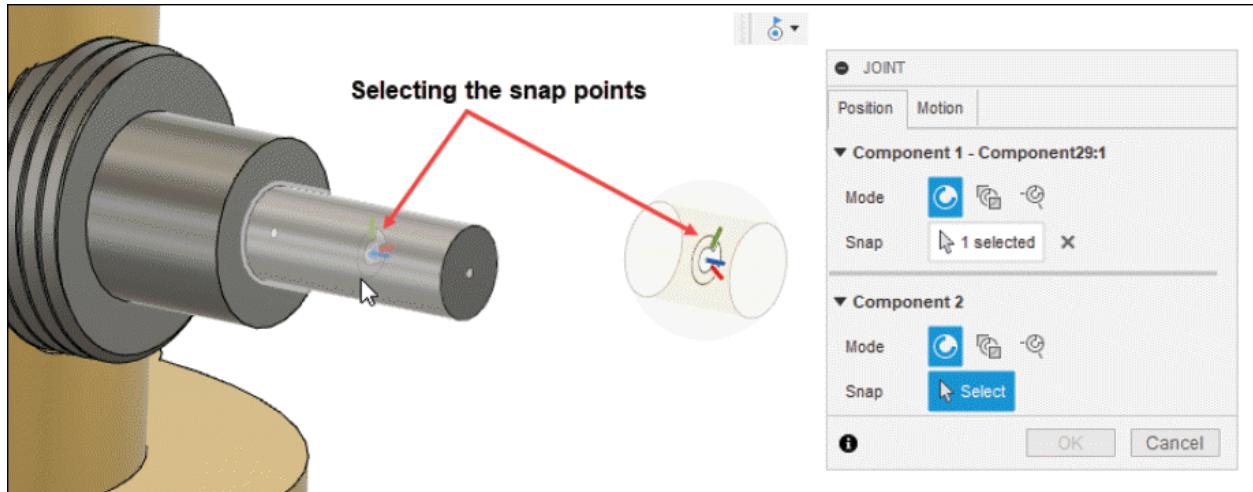

Figure-88. Selecting the snap points
- Select snap point on both Component 1 and Component 2 as shown in Figure-88.